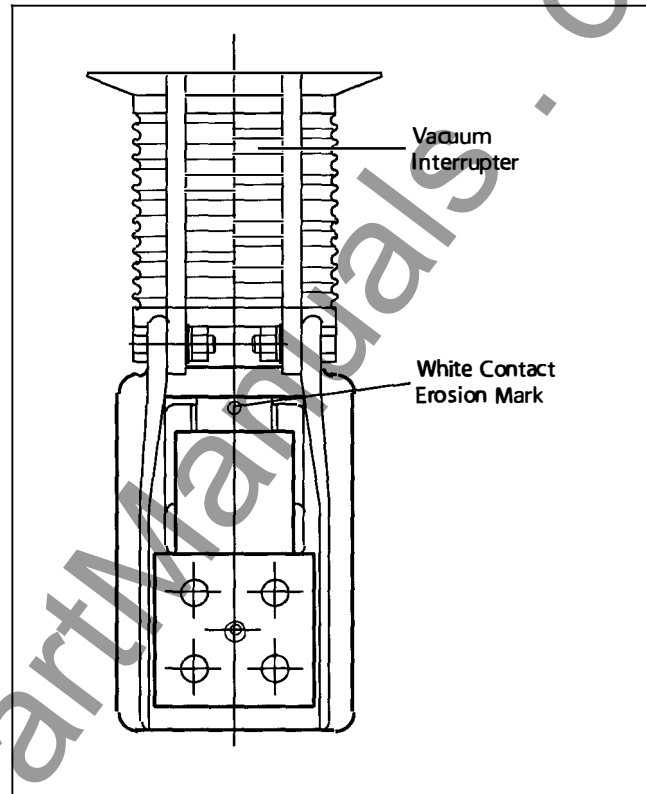

Figure 16. Contact Erosion Check Mark
3. Perform the contact erosion check. Contact erosion occurs when high fault currents are interrupted or when the vacuum interrupter is nearing the limit of its contact life. Determination of acceptable contact condition is checked by the visibility of the white contact erosion mark shown in Figure 16. The white contact erosion mark is located on the movable stem of the vacuum interrupter, near the plastic guide bushing.
- b. Observe the white contact erosion mark (Figure 16) of each pole. When any part of the white contact erosion mark is visible, contact wear is within acceptable limits.